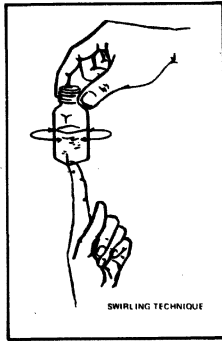

Figure 1
2. Add three drops of Buffer Solution, Hardness 1, and swirl to mix as shown in Figure 1.